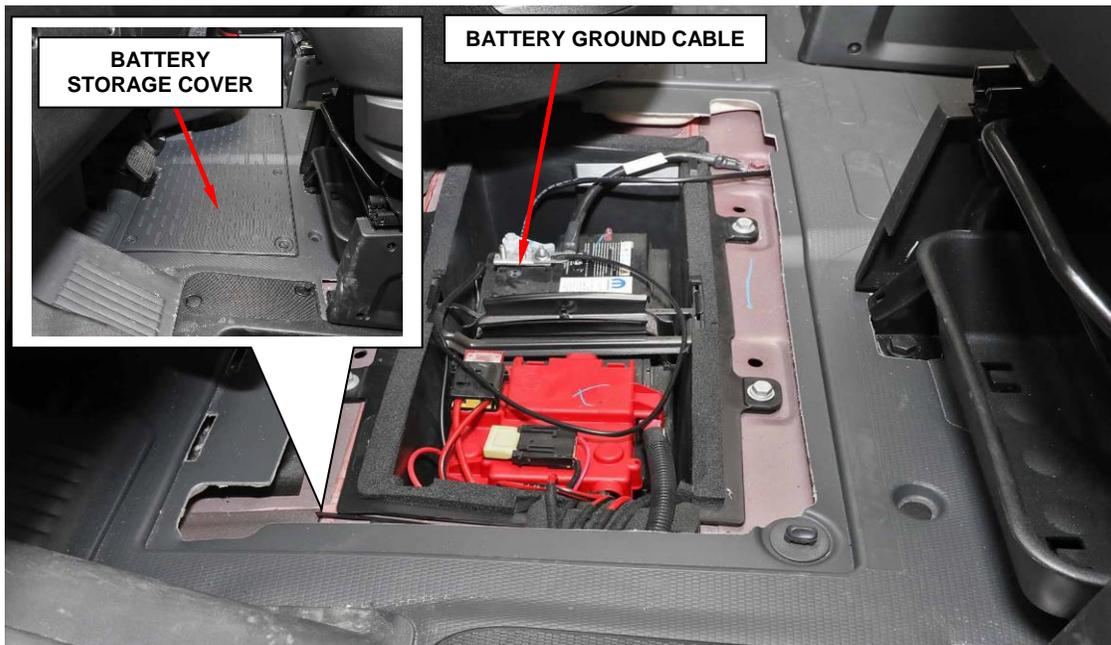

Figure 1 – Battery Storage
1. Remove the floor mat and the battery storage access cover, disconnect and isolate the negative battery cable terminal from the battery post (Figure 1).
42. Reconnect the battery ground cable (Figure 1).
43. Install the battery storage cover and floor mat (Figure 1).